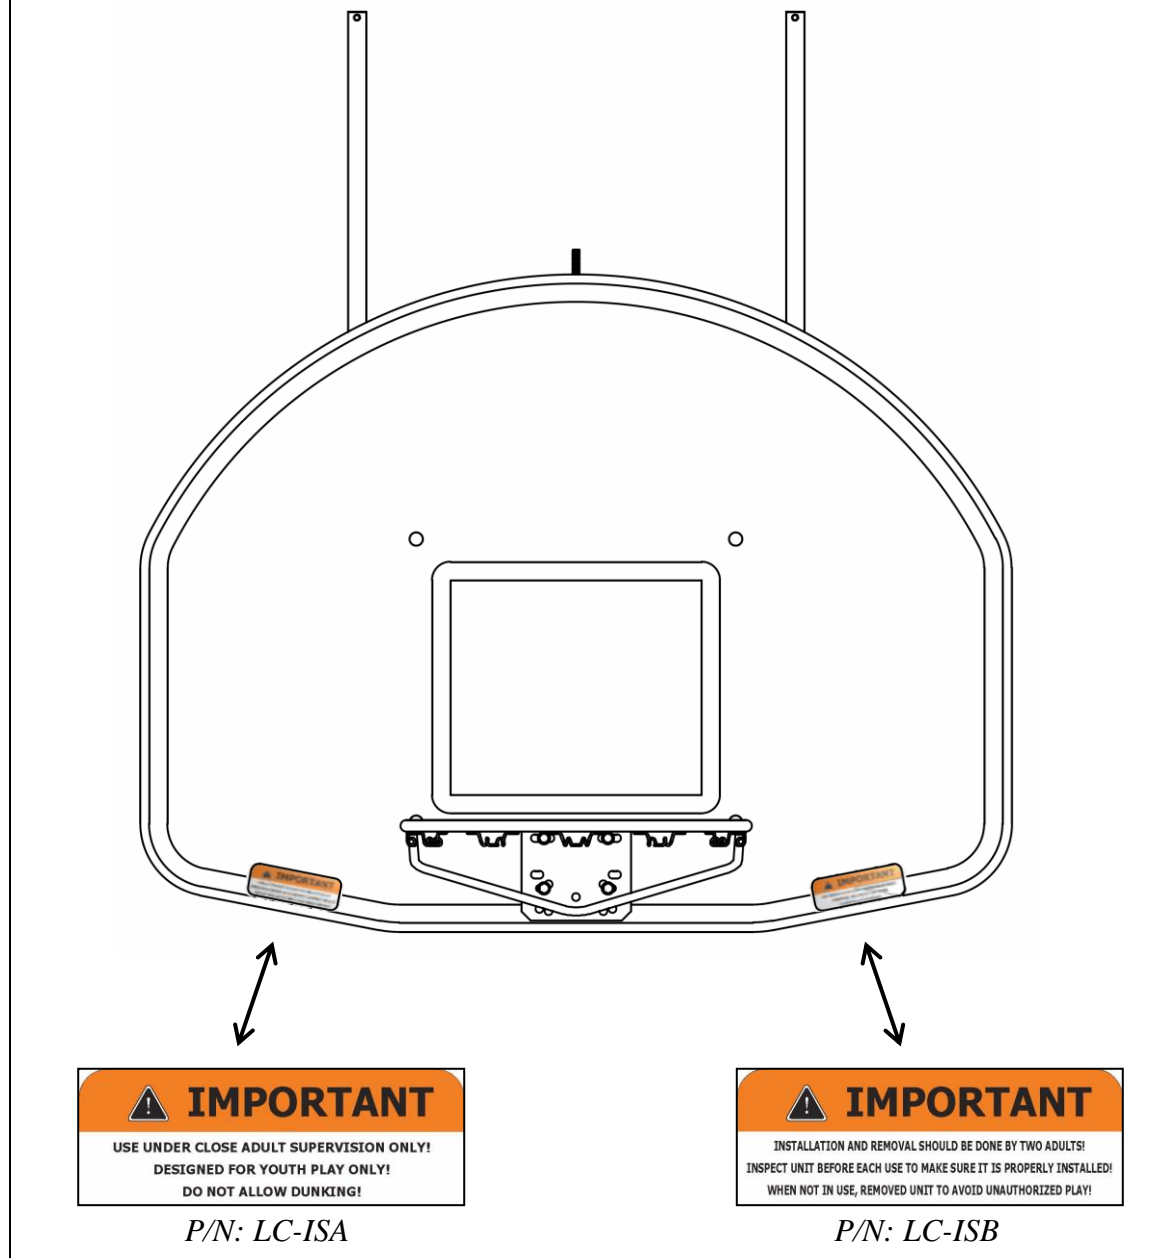

Figure 8 (*Warning Lable Placements*)
- 10) Apply important warning labels as shown in Figure 8.